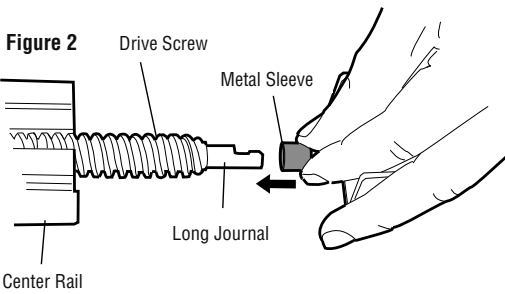

Figure 5
- Slide the center rail so that the center rail and rail brace holes are aligned (Figure 5). Secure with bolts.